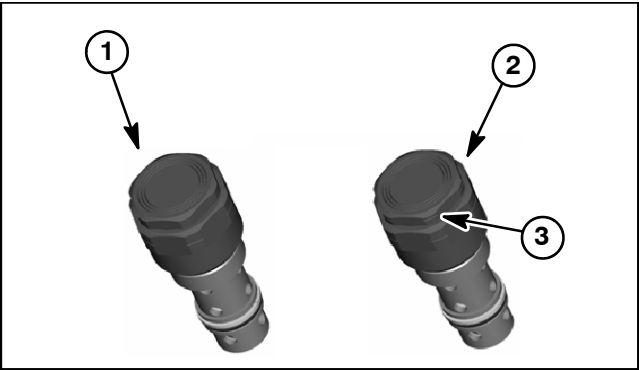

Figure 74
19.Remove forward and reverse relief valve cartridges from center case noting relief cartridge location for assembly purposes. The reverse relief valve cartridges can be identified by the groove in the hex head (Fig. 74).